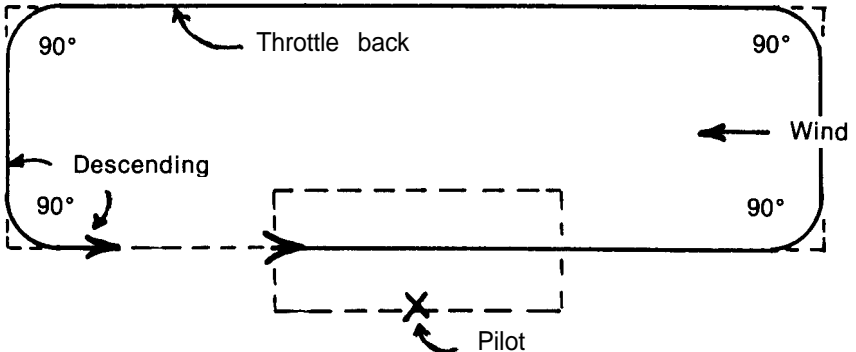

Fig. 8 – Landing Circuit and Descent
8. Landing Circuit and Descent (Fig. 8)